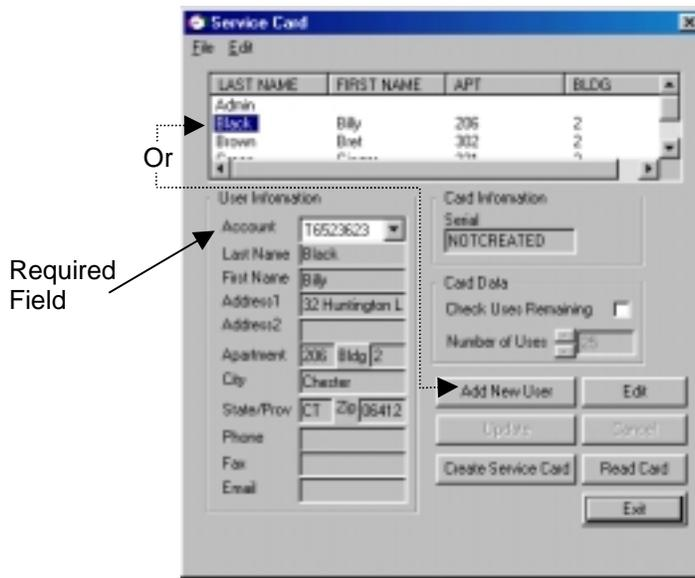

Figure 13.2 Selecting/Adding User
2. Select a user from the User List Window (Figure 13.2), and proceed to Step 3. If the user is not in the system, proceed to Step 2a.